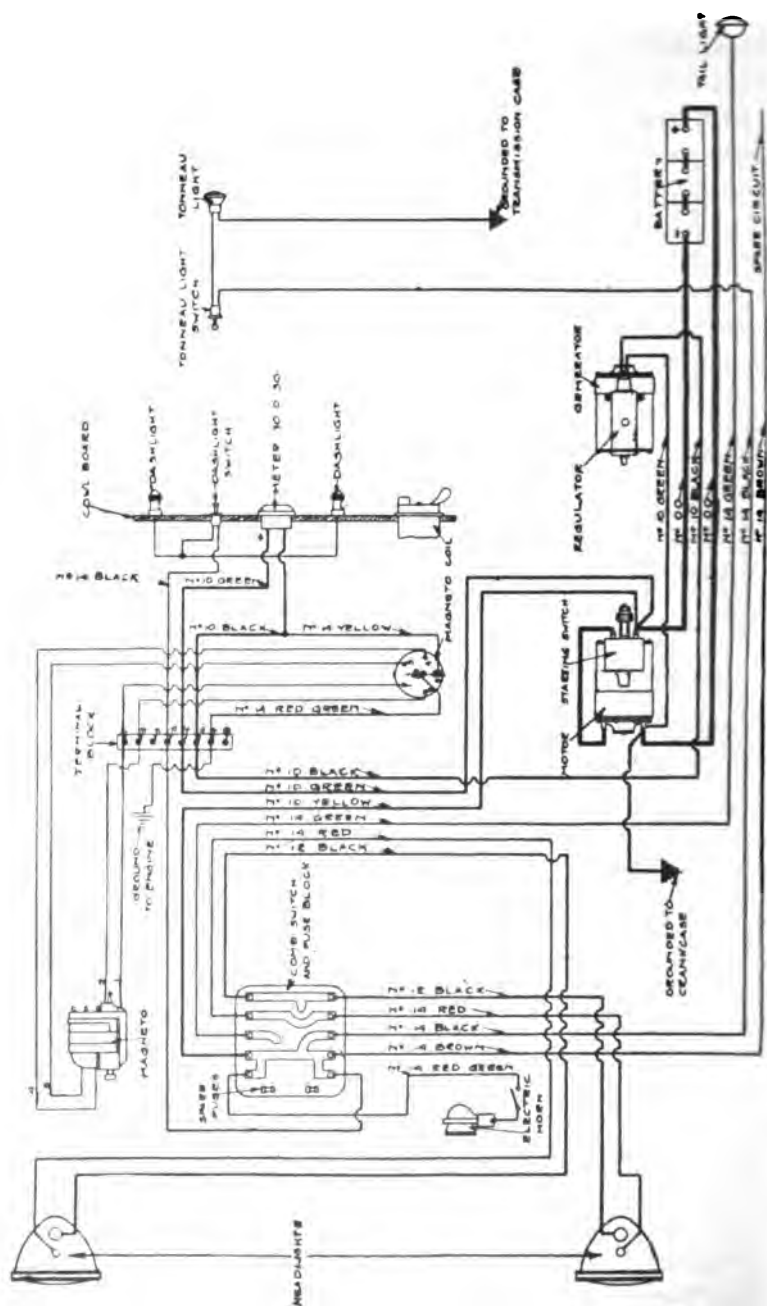

Fig. 228. Biljur System as Installed on the Winton
**Wiring Diagrams.** *Winton.* This, as shown in Fig. 228, is a single-wire system. The generator is located alongside the transmission case and is belt-driven, provision for belt adjustment being made by swinging generator to tighten belt. The numbers on the wires indicate the sizes of wire used for connecting the various apparatus. Ground connections are on engine and transmission case. In this installation the starting switch is mounted directly on the starting motor. A spare lamp circuit is provided on which a portable, trouble-hunting lamp may be connected. Fuses are provided on all lamp circuits.